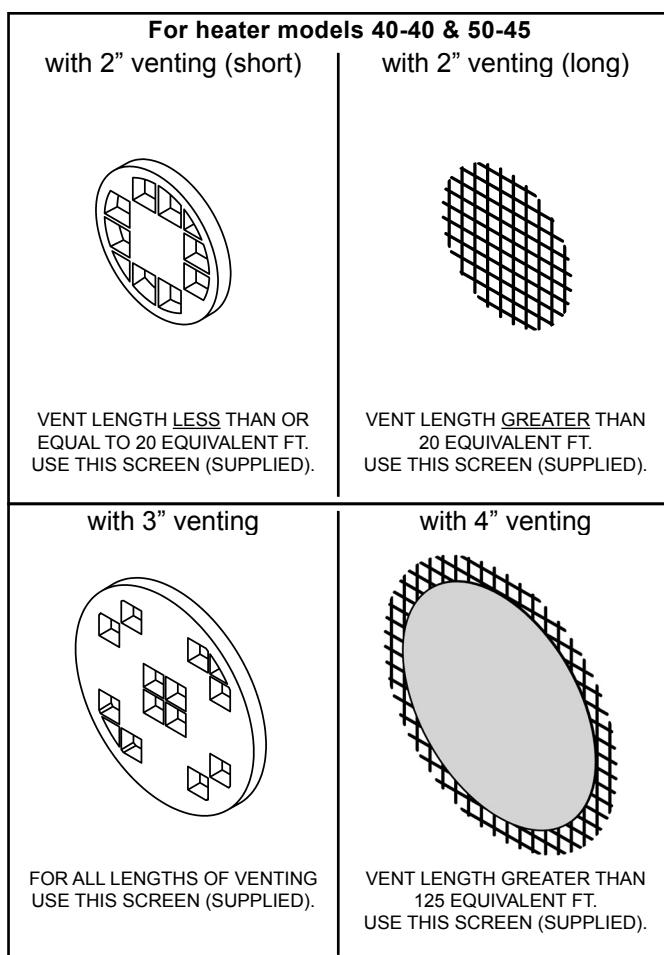
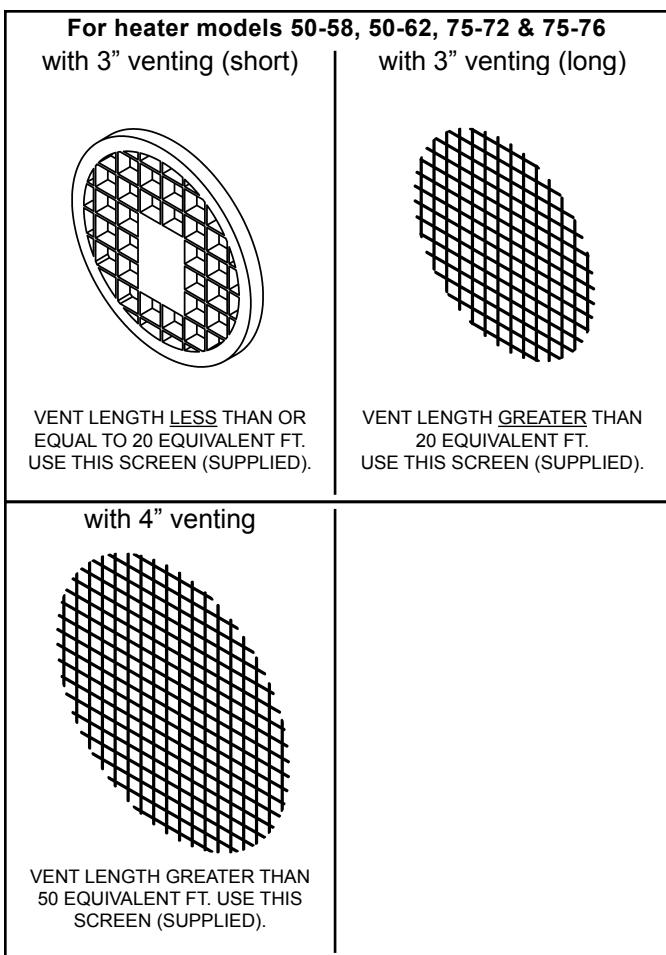

Figure 36.
Figure 37.
\* see Figure 36 and Figure 37
Use the appropriate vent termination screen as shown in Figure 36 & Figure 37. Install the vent termination screen in both the air intake pipe and the exhaust pipe.
This water heater includes one (1) pair of more restrictive vent screens and one (1) pair of less restrictive vent screens (see Figure 36 & Figure 37). For safety and optimum efficiency performance, ensure the correct vent screen is installed for the vent length in your installation. A vent screen is required to keep foreign objects, rodents and small birds from entering the venting system. These screens have been sized to ensure maximum energy efficiency of the vent system based on the "equivalent length" of the vent piping. **CHOOSE ONLY THE ONE SCREEN THAT MATCHES YOUR VENTING CONFIGURATION** (see Figure 36 & Figure 37). The vent screen MUST be installed for proper operation of the water heater. How to determine the "equivalent length" is shown in Table 4.
- Supplied with this heater are several vent screens (see Figure 36 & Figure 37).